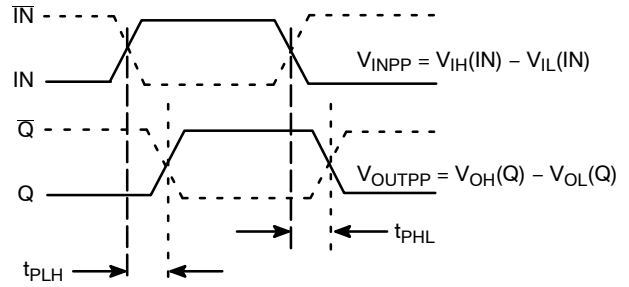

Figure 6. AC Reference Measurement
**DATA/CLOCK INPUTS (IN,  $\overline{\text{IN}}$ )** (Note 3) (Figures 6 & 7)